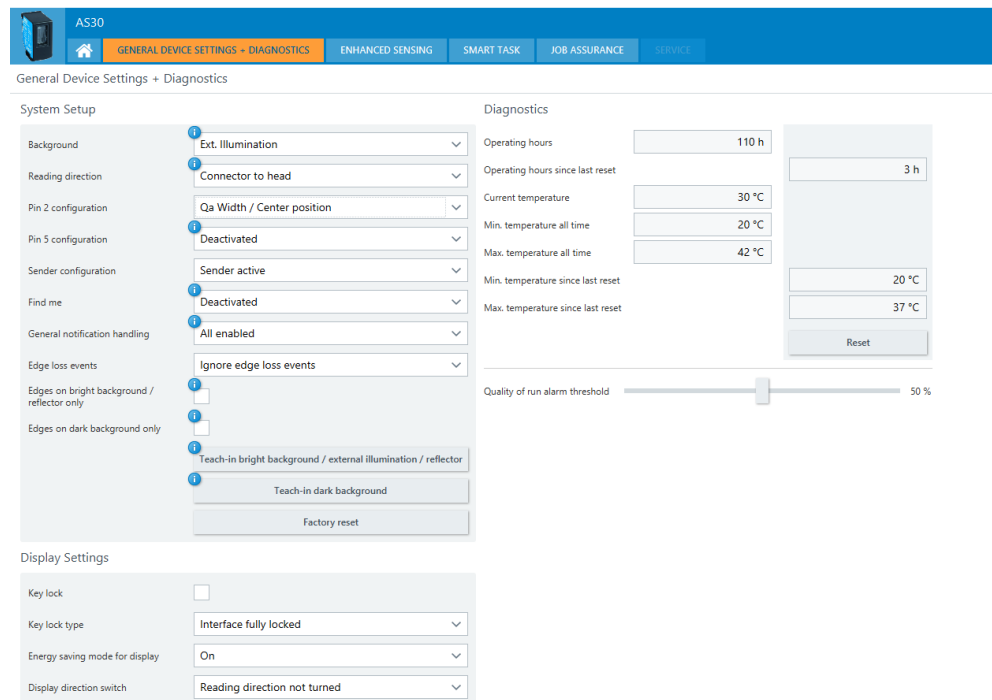

Figure 23: General Device Settings + Diagnostics tab
- **Other settings (see figure 23)**